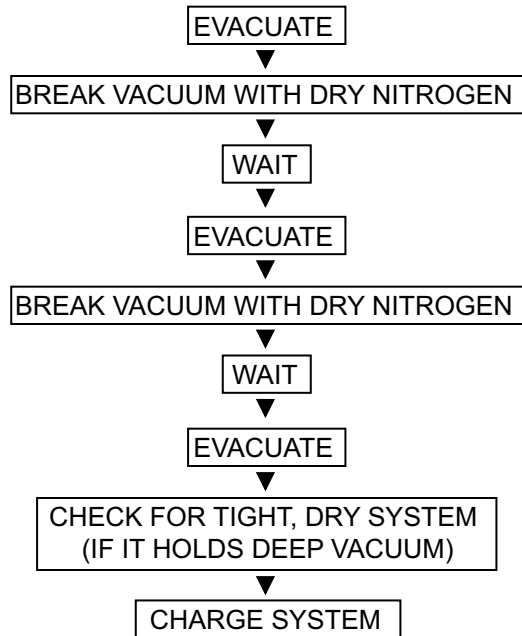

Fig. 35 – Triple Evacuation Method
The triple evacuation method should be used when vacuum pump is only capable of pumping down to 28 in. of mercury vacuum and system does not contain any liquid water. Refer to Fig. 35 and proceed as follows:
5. Repeat this procedure as indicated in Fig. 35. System will then be free of any contaminants and water vapor.